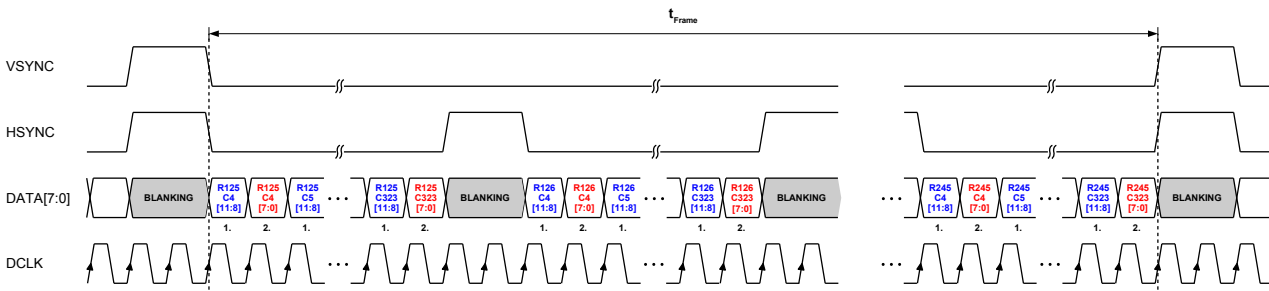

Figure 32: **msb/lsb** split mode
- msb/lsb split mode: Transfers 12 bit pixel data with MSByte leading and LSByte trailing with 2x DCLK. Refer to Table 14 and Figure 32.